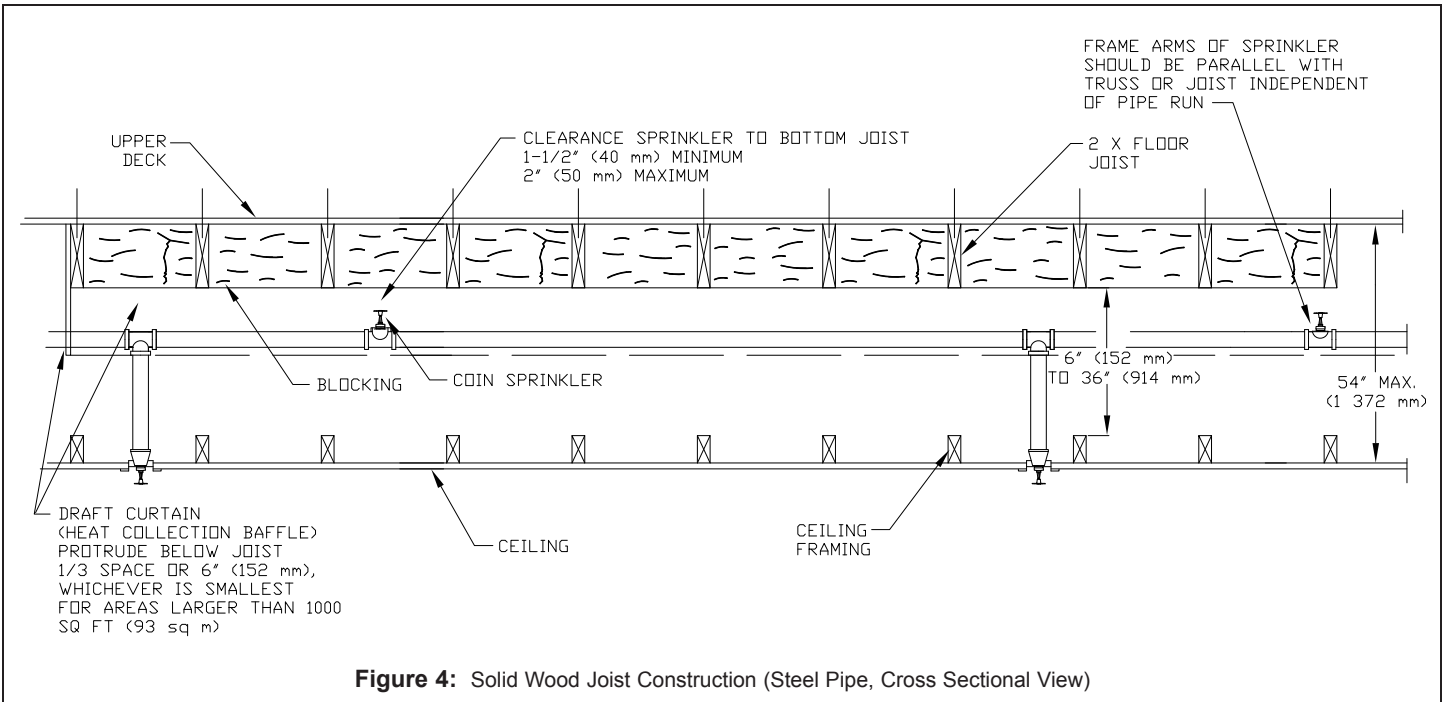
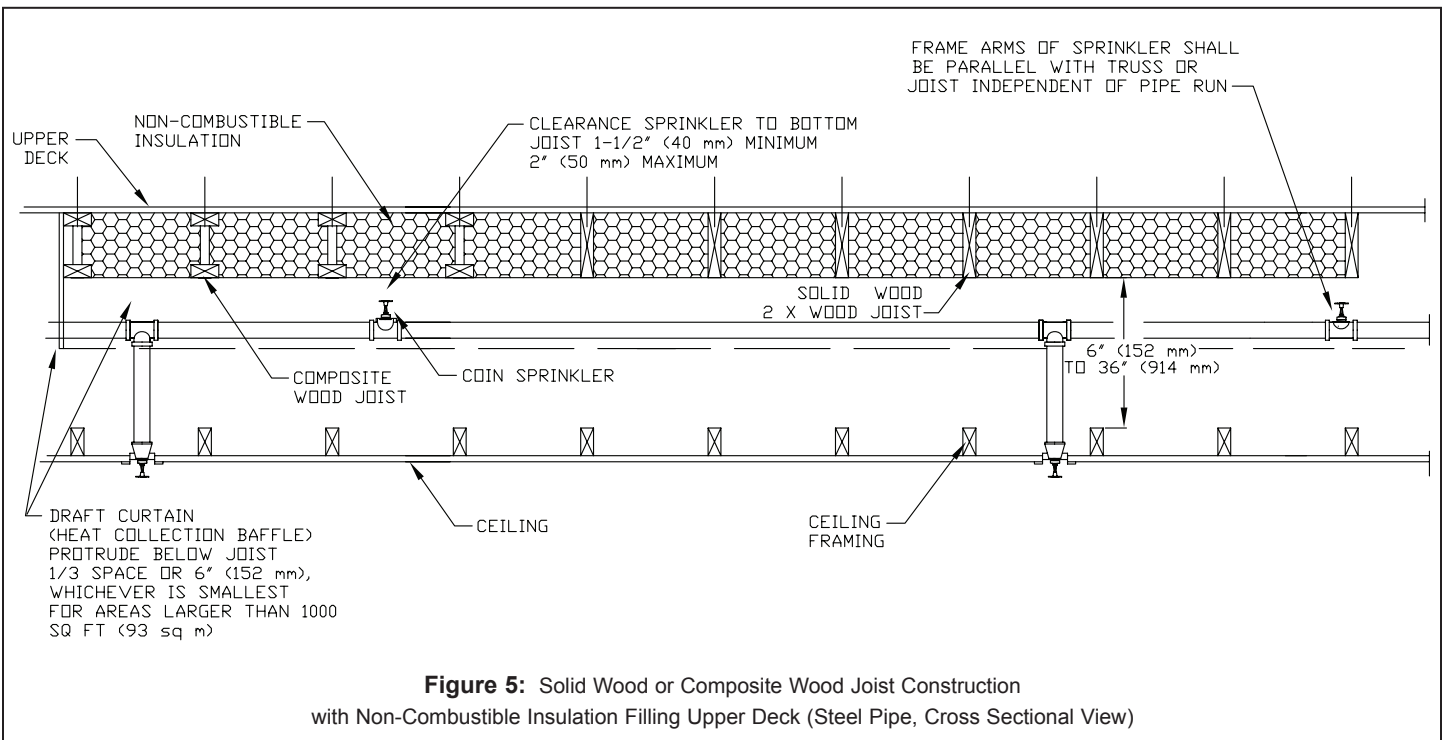
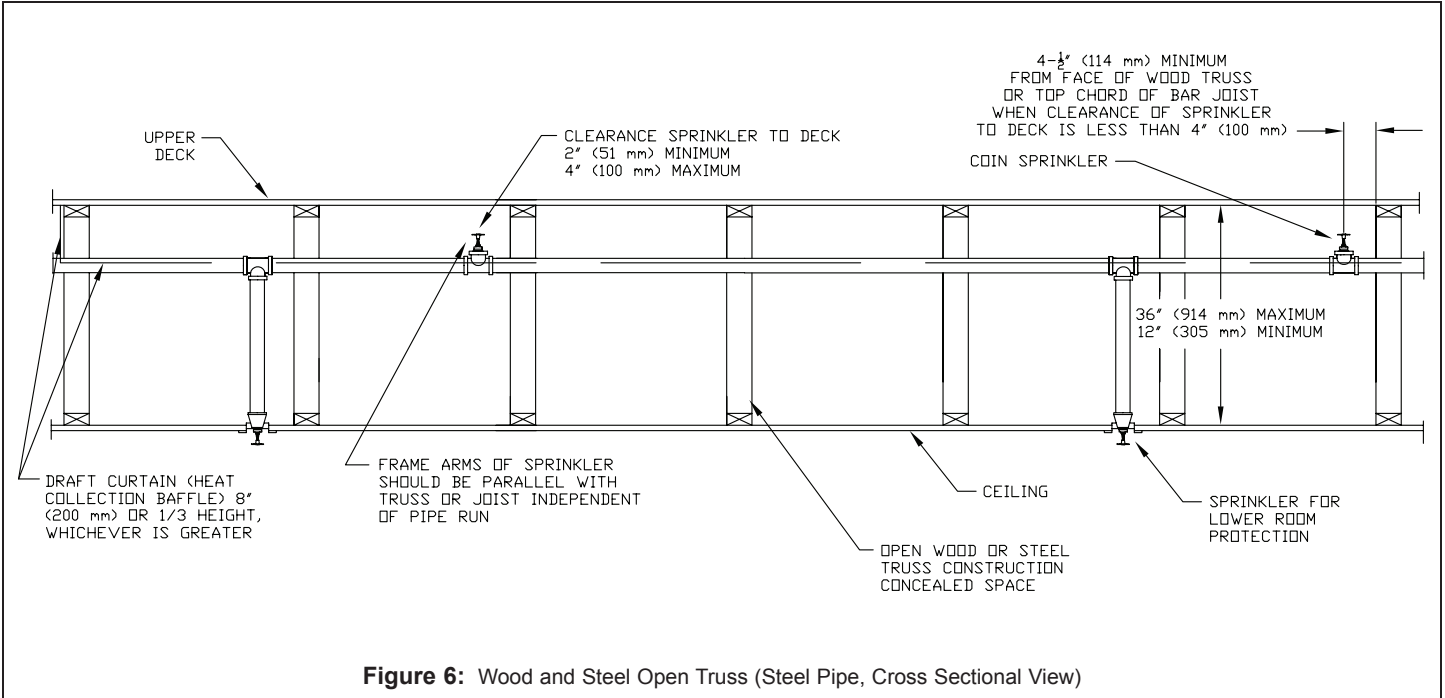

Figure 4: Solid Wood Joist Construction (Steel Pipe, Cross Sectional View)
Figure 5: Solid Wood or Composite Wood Joist Construction with Non-Combustible Insulation Filling Upper Deck (Steel Pipe, Cross Sectional View)
Figure 6: Wood and Steel Open Truss (Steel Pipe, Cross Sectional View)
DESIGN CRITERIA - STEEL PIPE (See Figures 4, 5, and 6)
- Maximum space from bottom of upper deck to ceiling surface (bottom of joist): 54" (1 372 mm). See Figure 4.
For solid wood joist without insulation (Figure 4) or solid or composite wood with non-combustible filled joist (Figure 5):
For truss construction, wood or steel bar joist (Figure 6):
The remote area for wood truss construction or bar joist construction (Figure 6) or solid wood joist construction (Figure 4) is 1000 sq ft (93 sq m) for wet pipe systems or 1300 sq ft (121 sq m) for dry pipe systems.
The remote area for non-combustible insulation filled solid wood joist or wood composite joist construction (Figure 5) is to be calculated per the requirements of NFPA 13.